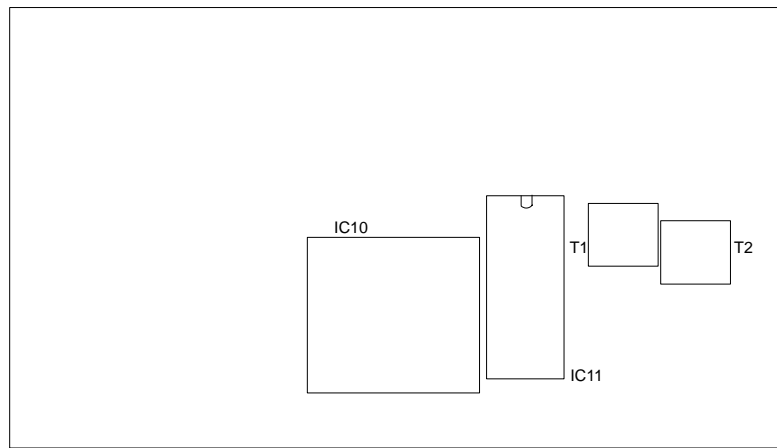

Figure 2: DSP Modem PCB
- Desolder T1 from the DSP Modem PCB (see Figure 2).
- Locate the via, which runs directly underneath T1 (see Figure 2).